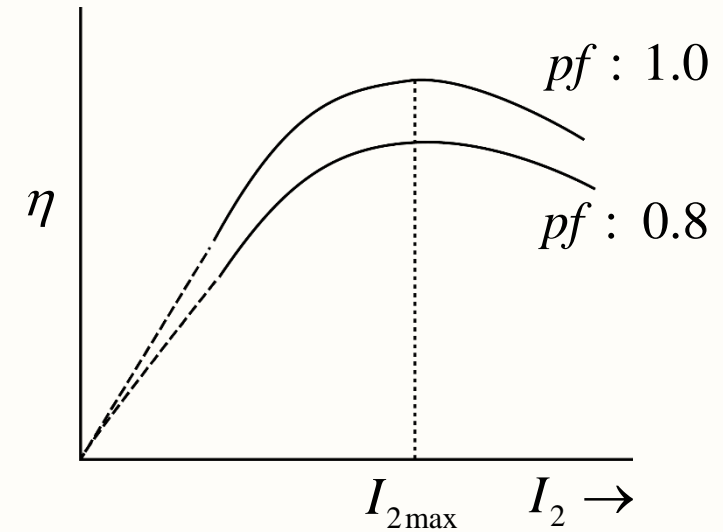

Fig. 35. Variation of efficiency with load current.
- ❖ The variation of efficiency  $\eta$  with load current  $I_2$  is shown in Fig. 35.